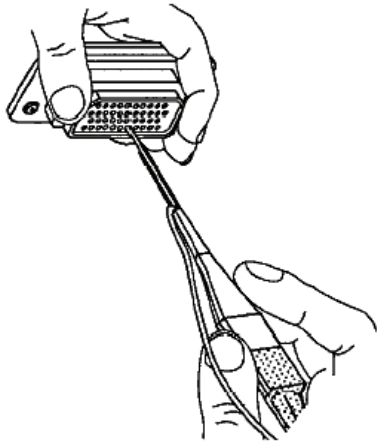

Figure 12. Inserting Wire into Removal Tool
b. Place wire of contact to be removed into removal tool, with white tip facing connector insert (Figure 12).